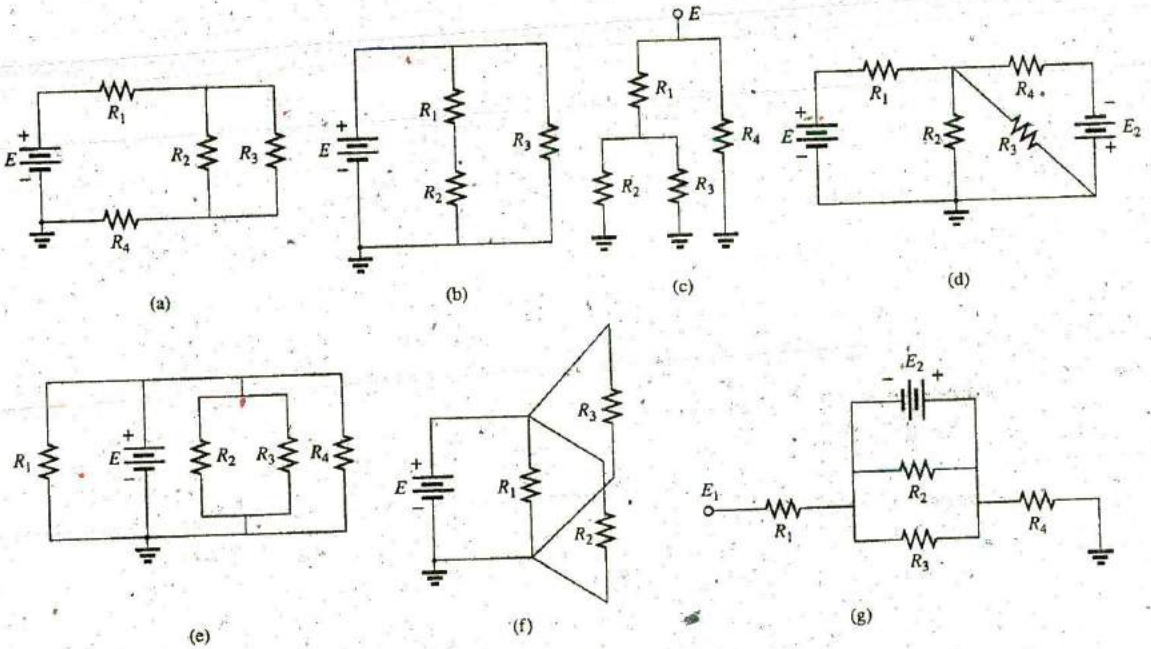

FIG. 6.71
1. For each configuration in Fig. 6.71, find the voltage sources and/or resistors elements (individual elements, not combinations of elements) that are in parallel. Remember that elements in parallel have the same voltage.